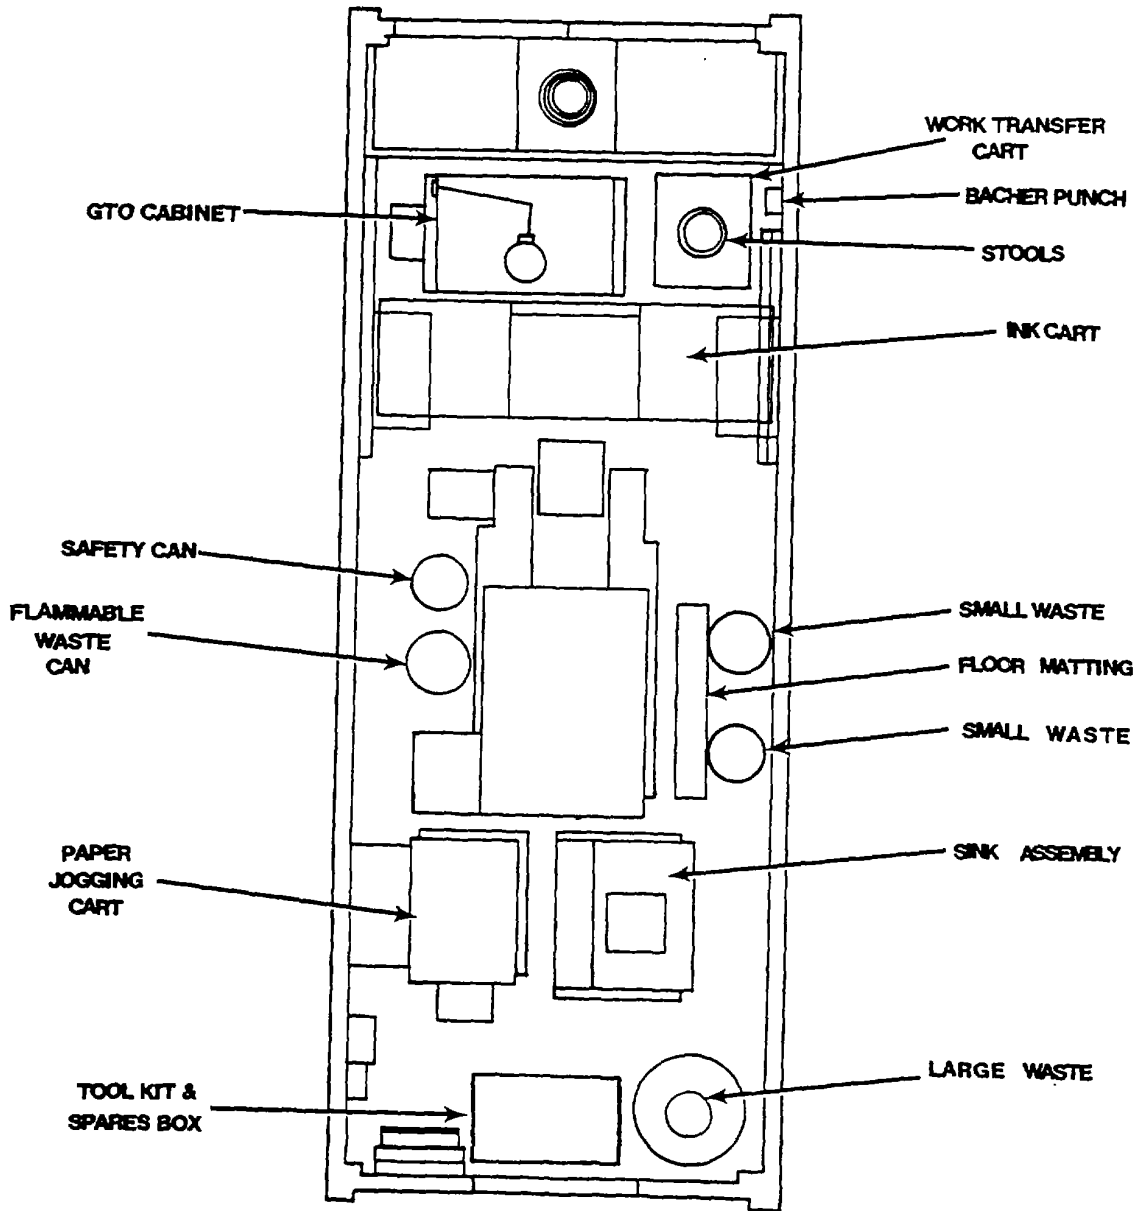

Figure 2-19. Press Section Equipment Storage Location
- i. Refer to Figure 2-19 and stow equipment in the following order.
- (1) Roll up floor mat and place in storage location.
- (2) Place ink cart and tool caddy with black dot in position over black dot on shelter floor.
- (3) Place the GTO Cabinet Assembly with red dot beside the ink cart and tool caddy with red dot, and under the red dot in the shelter ceiling.
- (4) Place the work transfer cart with the yellow dot in position over the yellow dot on the shelter floor.
- (5) Drain the sink assembly storage tanks and place the sink assembly with blue dot in position over the blue dot on the shelter floor.
- (6) Place paper jogging cabinet assembly with brown dot in position over the brown dot on the shelter floor.
- (7) Stow roller wash racks under folding table, unlatch braces, and fold down folding table.
- (8) Place stools, tool box and waste can in storage locations shown in Figure 2-19 and secure in place with stretch cords.